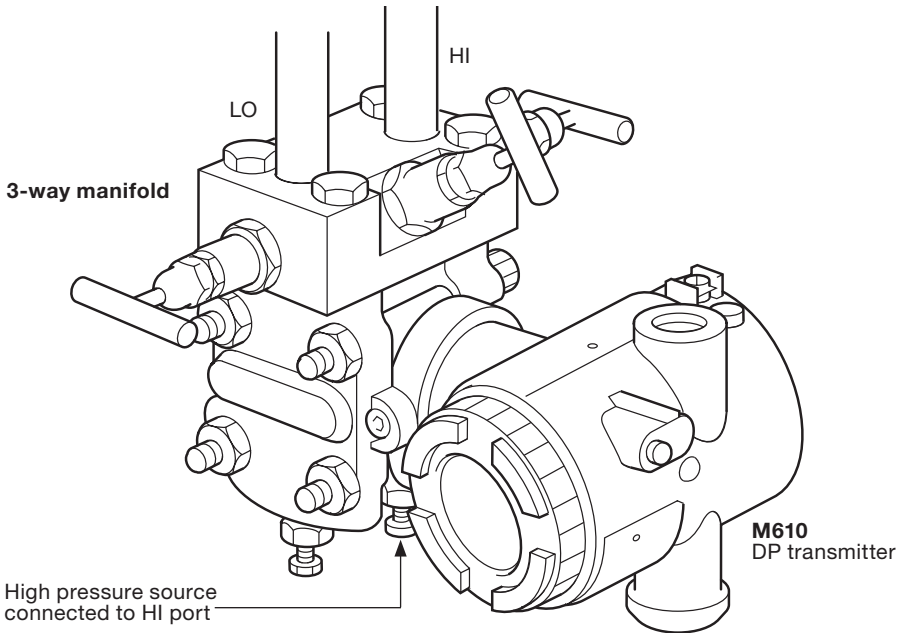

Fig. 24
- 7.2.8 Using a suitable precision pressure source attached to the HI pressure port of the DP transmitter as shown in Figure 24, apply a pressure corresponding to the set pressure of the unit. (For ILVA flowmeters, this is normally factory set to 498 mbar / 200 inches water gauge).